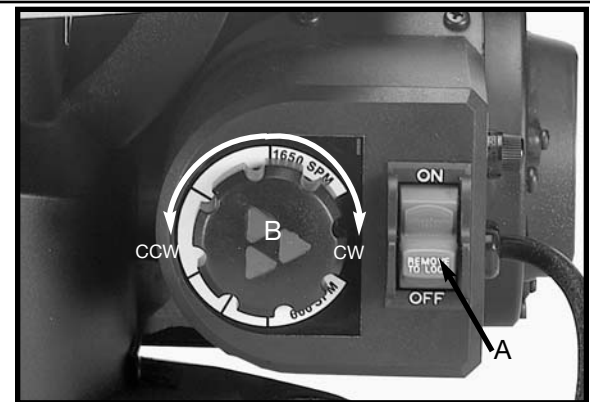

Fig. 5
The on-off switch (A) Fig. 5, and variable speed control (B) are located on the right front side of the scroll saw base, as shown. To turn the saw "ON", push the switch (A) up and to turn the saw "OFF", push the switch (A) down.
This scroll saw is supplied with variable speed control ranging from 600 to 1650 strokes per minute. Turn variable speed control (B) Fig. 5, counterclockwise to reduce speed and clockwise to increase speed.